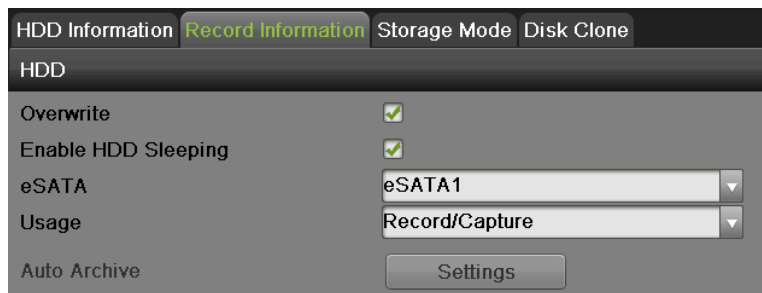

Figure 152 Record Information Menu
2. Select the Record Information tab, as shown in Figure 152.